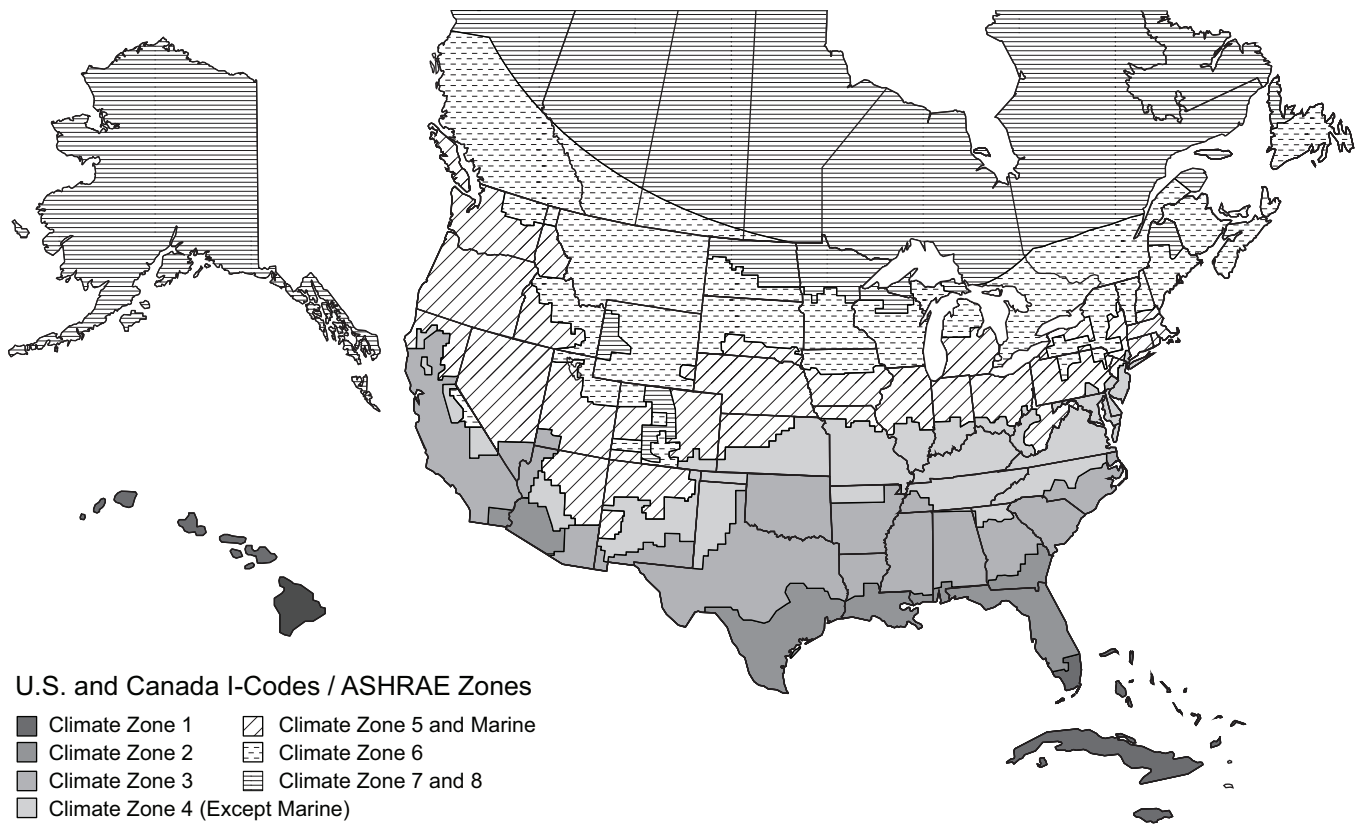

Fig. 69 — U.S. and Canada Climate Zones
- a. Refer to Fig. 69 for map of U.S. and Canada climate zones.